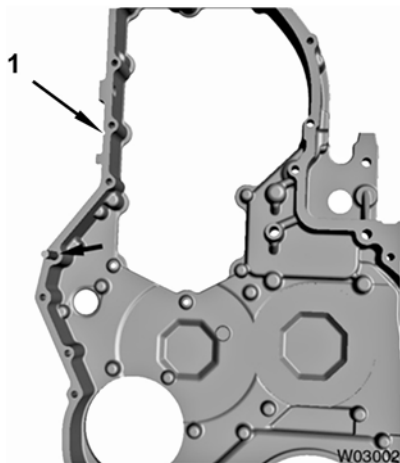

Figure 20 Front Cover
24. Install front cover. Refer to EGES-510, Front Cover, Installation (Figure 20, Item 1).